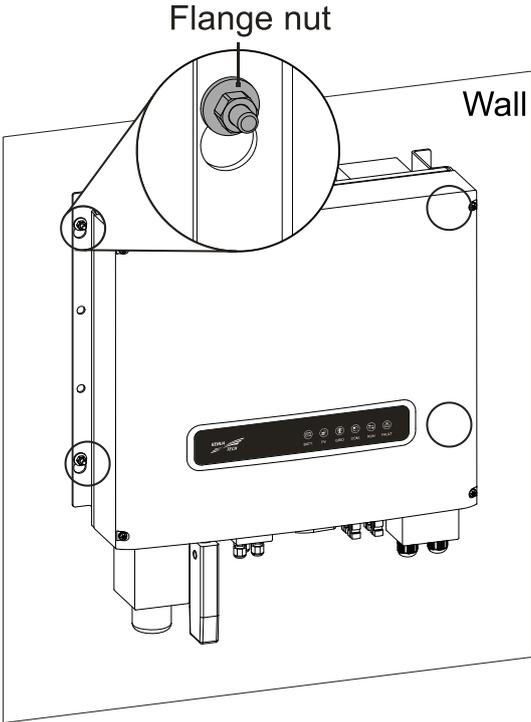

Figure3-4 Install inverter
Step 3 Hold two sides of inverter and install it into expansion bolts through kidney-shaped holes in the installation holes, and then fasten flange nuts, as shown in Figure3-4.